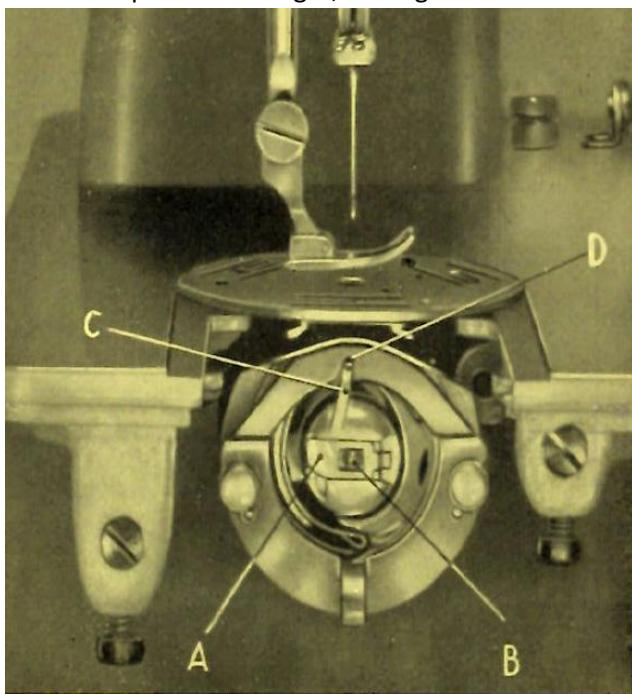

Figure 19
- e) With thumb and forefinger of the left hand, take bobbin case (into which full bobbin has been inserted) by the latch A and place it on the center stud B of the shuttle. The position finger C of the bobbin case must go into the notch D on top of the race plate, as shown in Figure 19.